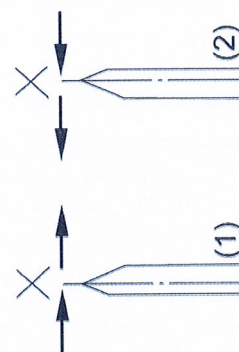
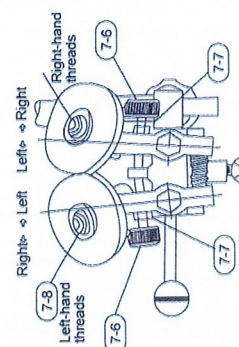

Fig. 9
Fig. 10
4. If the blade is ground unevenly as shown in Fig. 9, then adjust the two grinding wheels left or right by turning the two knurled screws (7-6) shown in Fig. 10. The arrows in Fig. 9 indicate the moving direction of the grinding wheels.
5. Generally, the angle between two blades should be small for thin materials, and the angle should be big for heavy materials. Referto Fig.10 for details, and the small arrow indicates the moving direction of two grinding wheels.
7. If the knife is not ground though the grinding wheels has been adjusted correctly. The grinding wheels are worn out and should be replaced. Loosen nuts shown in Fig.10 to replace.